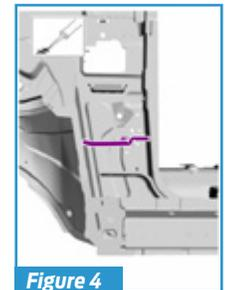

Figure 4
2. Apply adhesive as indicated (TA-1, 3M™ 08115, Fusor® 108B) (**Figure 4**).